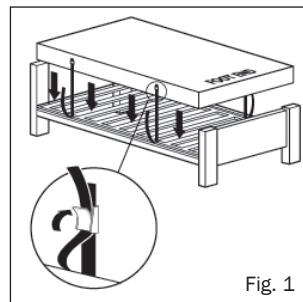

Fig. 1
3. Secure the mattress to the bed frame using adjustable straps - pass straps beneath or around bed frame mattress platform and secure with the buckles (Fig. 1), allowing for moving components on electric bed frames. This is important as it stops the mattress becoming detached from the bed frame and causing possible injury to the patient. A strap extension kit is available for use with divan beds (part number 11062).